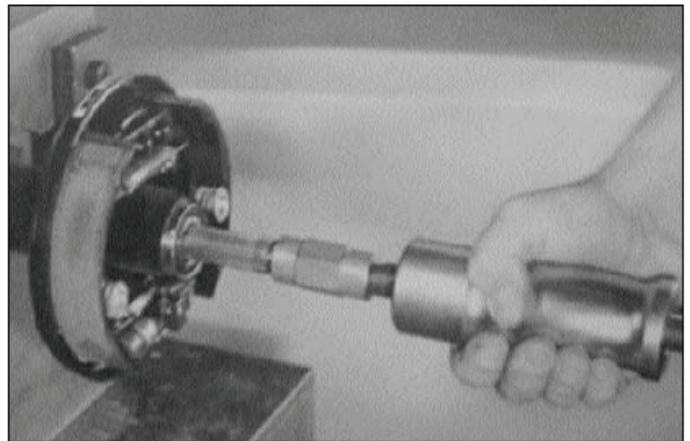

Figure 7-10. Removing Axle Shaft/Bearing Assembly
3. Using a slide hammer attached to the threaded end of the axle shaft (22, 23), remove axle shaft and bearing (28) assembly. See Figure 7-10).